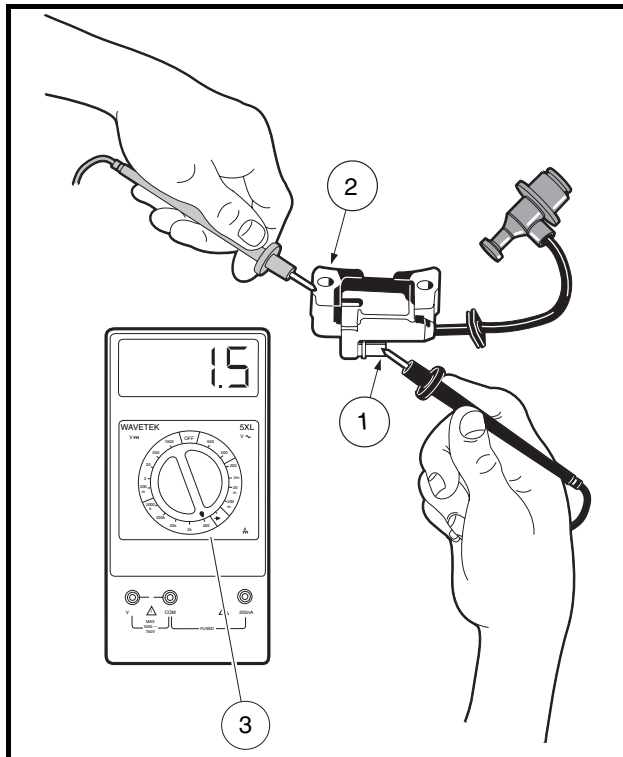

Figure 12-25 Primary Coil Resistance – Bench Test
- 2.1. Place the black (-) probe of the meter on the terminal on the ignition coil (1), and place the red (+) probe on the core (2) (**Figure 12-25, Page 12-25**).